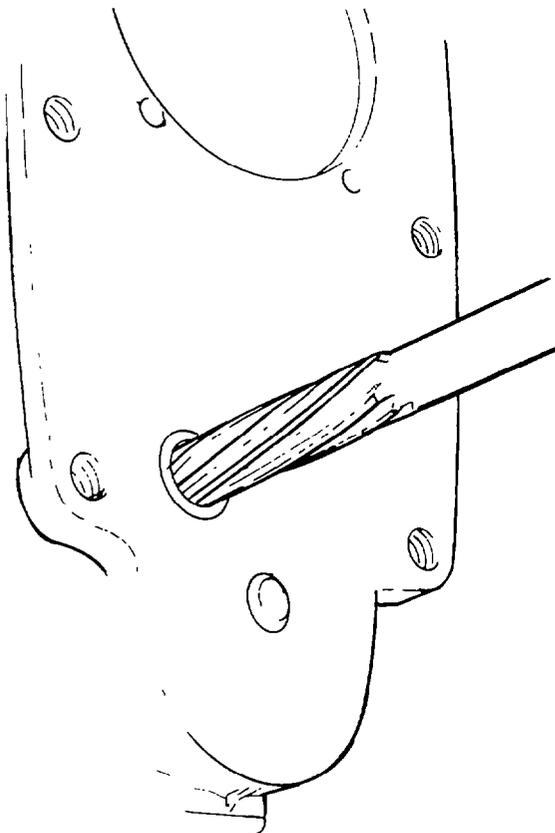

Fig. 101 — Reaming Bushings
- k. Install the retaining ring (item 59) into the groove in the shutoff shaft (item 56).
- l. Install new control rack bushings (item 76) as follows:
3. Line ream the bushings with TSE 76247 reamer (see fig. 101).